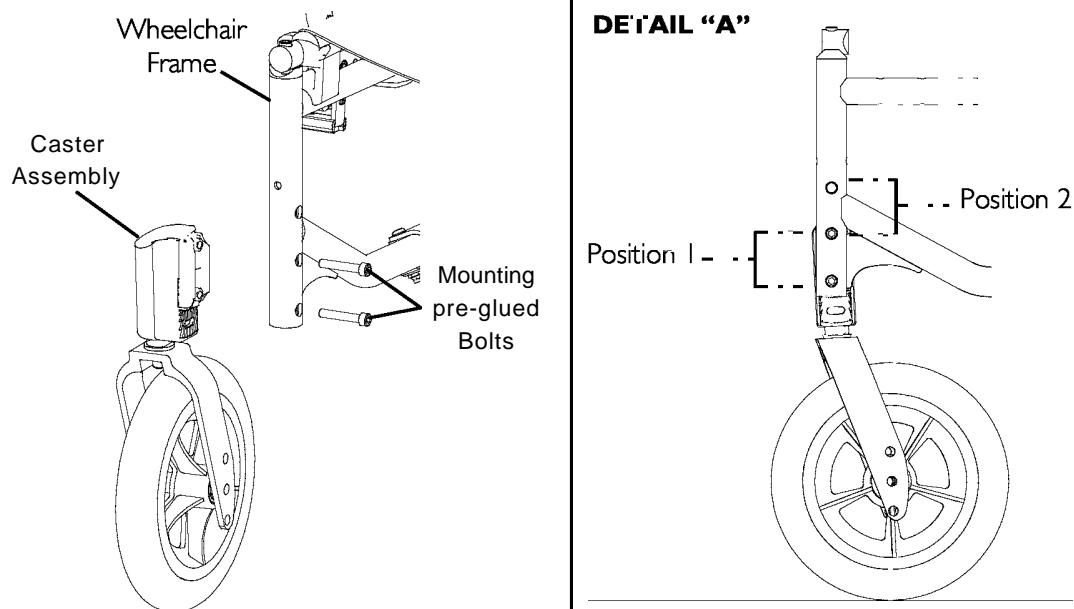

FIGURE 5.11 Adjusting Caster Assembly Position
NOTE: For this procedure, refer to FIGURE 5.11.
2. Move the caster assembly to one of two positions. Refer to Detail “A” of FIGURE 5.11.